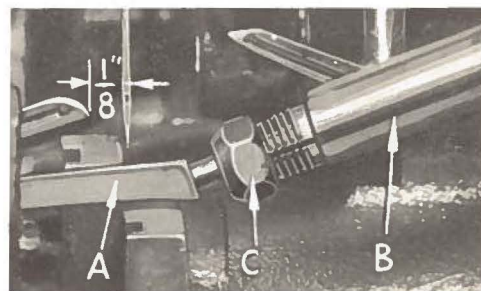

Fig. 5
At this point, insert lower looper (A, Fig. 5) into bar (B). With lower looper at left end of its stroke, set looper point $\frac{1}{8}$ inch from center of needle (Fig. 5), using looper gauge No. 21225- $\frac{1}{8}$ for Styles 39500 FN, FV, GP and GU. Set looper point $\frac{3}{32}$ inch from center of needle (Fig. 5), using looper gauge No. 21225- $\frac{3}{32}$ for Styles 39500 FX and JX. Do not have lower looper deflecting needle. Tighten nut (C).